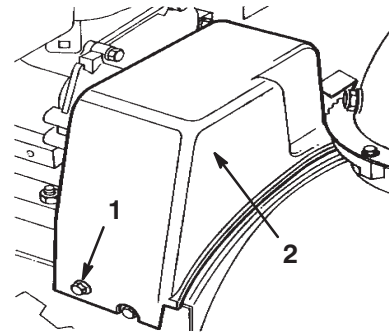

Figure 23
4. Remove the two flange-head bolts that hold the belt cover in place and set the cover aside (Fig. 23).
3. Remove the two flange-head bolts that hold the belt cover in place and set the cover aside (Fig. 23).